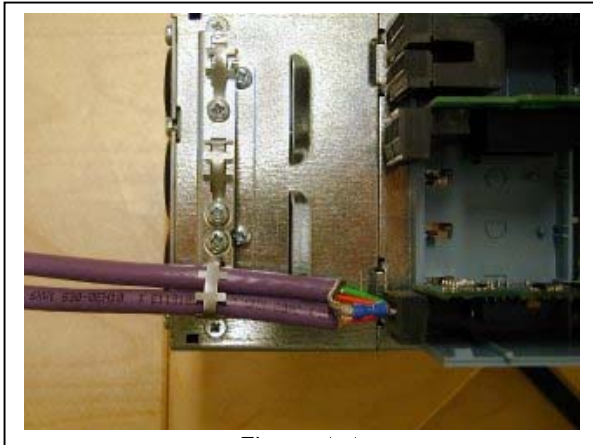

Figure 4-5.
3. Fix both the cables on the frame with the clamp. See Figure 4-5.